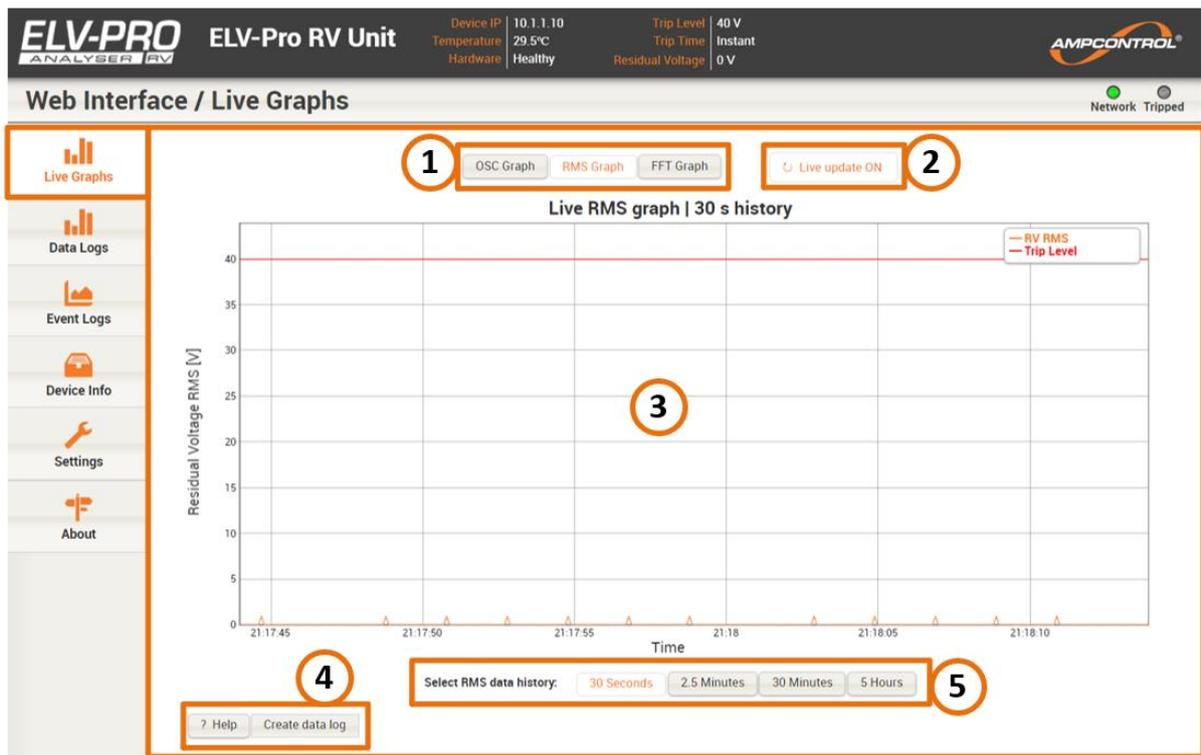

Figure 29: ELV-PRO RV Web Interface - Live Graphs (RMS)
Figure 29 shows the ELV-PRO RV Live Graphs interface. By default, the Live Graphs tab displays the RMS graph of the past 30 seconds. The graphs in this tab are refreshed every second; provided the Live Update button (Item 2) is activated (default is ON). With the Live Update button disabled the plot is static which can allow for better inspection of the data shown using the interactive features of the plots (described in Section 0). The buttons above the graphs (item 1) allow the graph to alternate between the three possible options. These are:
- **RMS graph:** In this view, Root Mean Square (RMS) values of the measured voltage are shown. The user is able to select the time interval on the graph by selecting from the buttons below the graph, Figure 29.